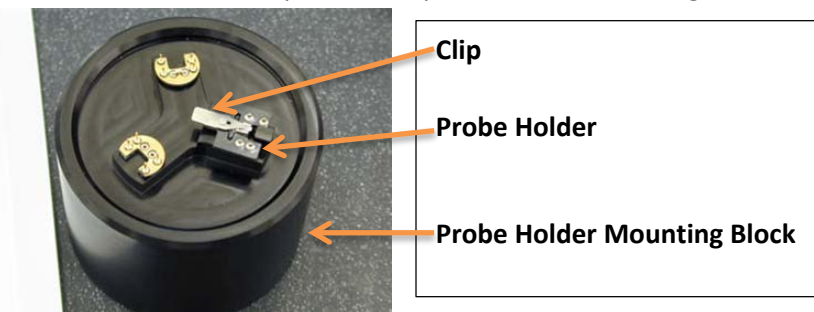

Figure 4. Probe holder mounting block with 3 probe mounting stations.
- a) Mount a probe holder on the probe holder mounting block as shown below in Figure 4. Be careful not to bend or break the contact pins on the probe holder mounting block!
- b) Gently place a probe on the probe holder and secure the probe with the metal clip (Figure 4). Ensure the probe is parallel to all edges of the channel and not touching the rear of the holder by observing under the optical microscope in the SSL. Gently manipulate the probe with a pair of tweezers as necessary to achieve optimal alignment of the probe in the probe holder.